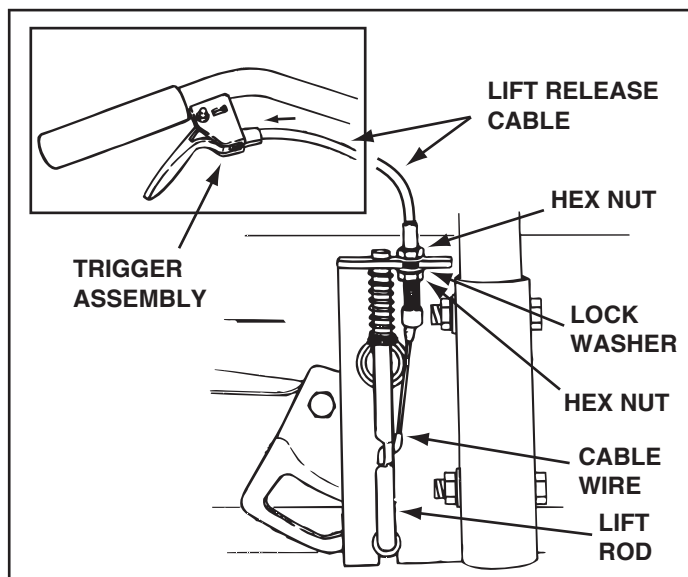

FIGURE 15 RIGHT SIDE VIEW
- Push the lift handle down into the locked position. Insert the end of the cable wire into the hole in the lift rod. Place the threaded fitting into the slot in the lift bracket, with one hex nut above and one hex nut and the lock washer below the slot. Tighten the nuts, adjusting them to eliminate slack in the cable wire. See figure 15. Refer also to the Service and Adjustments section on page 18 in this manual.